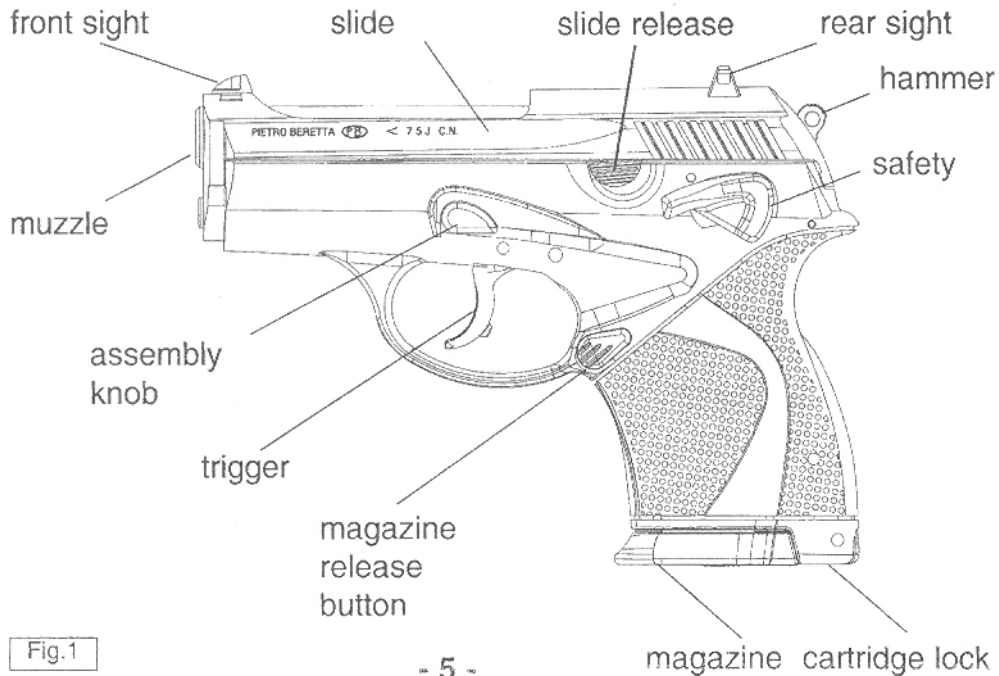

Fig.1
**Beretta A-9000S pistol can be used to shoot in single or double action mode. Slide does not recoil with each shot to avoid unnecessary waste of CO2 cartridge energy. The hammer may also be cocked by pulling the slide and releasing it by pushing the slide release button. (Fig. 1).**